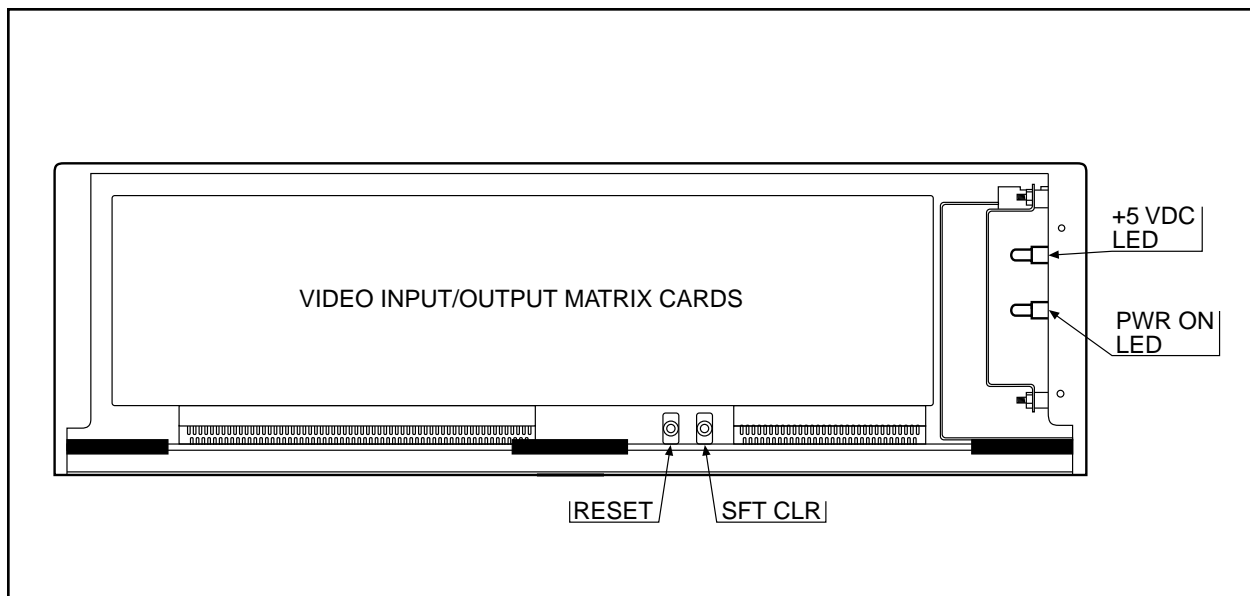

Figure 7. CM8502A-1/CM8503A-1 Card Cage Front View
Figure 6 shows the board location for the CM8503A-1 Card Cage. The CM8502A-1 Card Cage board locations are identical, with the only difference being eight (8) fewer video input/output slots. (Slots 9-16 are not present in the CM8502A-1 version.) Refer to Figure 7 for the front view of the CM8502A-1/CM8503A-1 Card Cages. When the power switch is in the On position, both the green Power On LED and the red +5 VDC